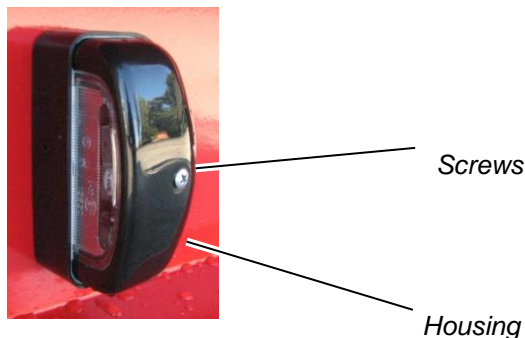

Figure 67: Numberplate light
- ⇒ Unscrew the screws from the numberplate light (see Figure 67).
- ⇒ Remove the housing (see Figure 67).